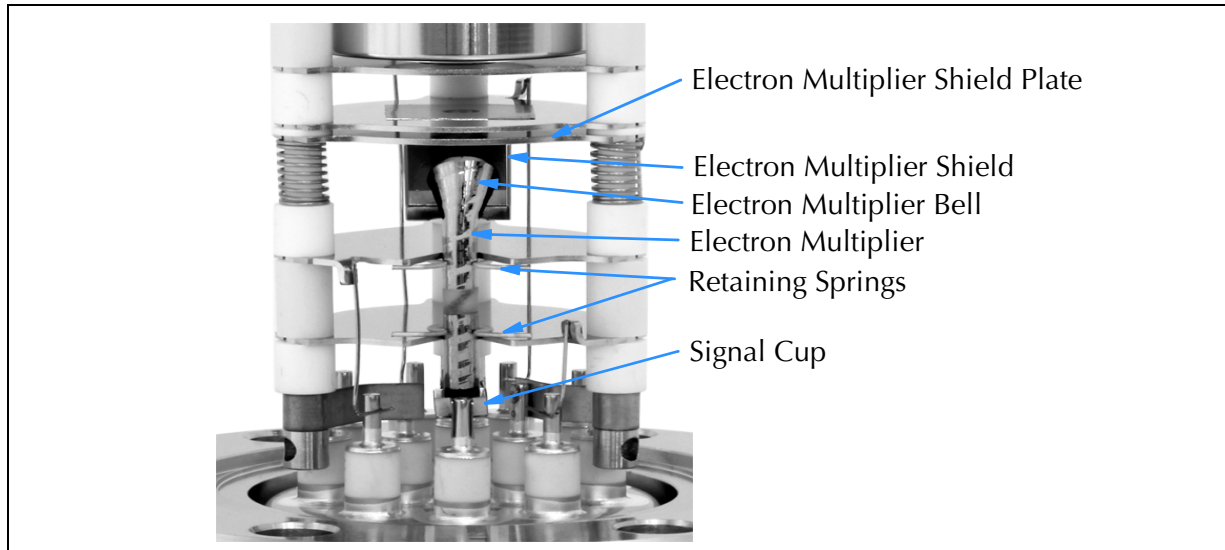

Figure 7-10 Close-up of the Electron Multiplier
7. Use the 0.040 gauge wire to adjust the EM to the proper location as illustrated in Figure 7-12 and Figure 7-13. The gauge wire can also be used if slight rotational adjustment is required to make sure the bell of the EM is facing toward the center of the MS Gauge. To do so, slide the wire between the bell and the sides of the EM Shield (see Figure 7-10).